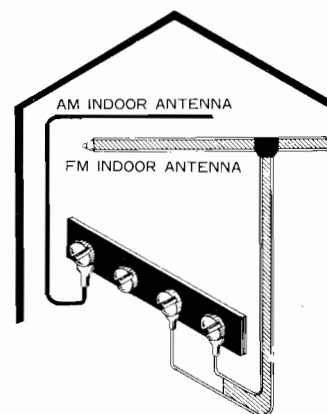

Fig. 4
- Reception is easier if the building is primarily of wood and is near the FM station, in this case, use the accessory T-type indoor antenna. Unfold the horizontal section of the antenna to its full length, and determine the best direction for the antenna while actually receiving an FM broadcast program. Attach the horizontal section to a wall or other place in the determined direction. (See Fig. 4.)
- If the loopstick antenna does not provide sufficient sensitivity for reception and static is noticeable, put the furnished antenna wire on the wall and connect one end of the wire to the AM antenna terminal. (See Fig. 4.)